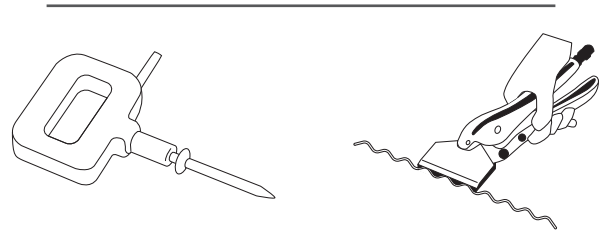

Figure 505.4
5. After welding, the best way to break off the pulling rod is by twisting. Wiggling from side by side may cause hole in the panel. Pins can be snapped or twisted off. Wiggle wire is removed by rocking up and down. We recommend using a Vise-Grip® model 8R. Please see Figure 505.4.